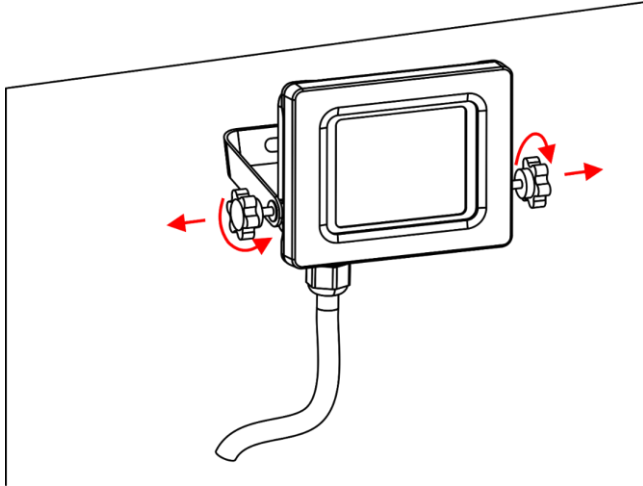
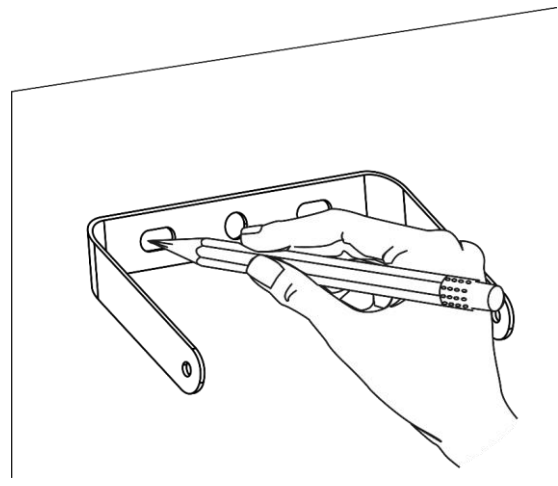

Fig. 07
Fig. 08
- 01) Turn the 2 **adjustment screws (01)** counterclockwise to loosen them (Fig. 07).
- 02) Remove the 2 **adjustment screws (01)**. The device and the **mounting bracket (03)** will disconnect.
- 03) Hold the **mounting bracket (03)** against the wall and mark the mounting locations (Fig. 08).